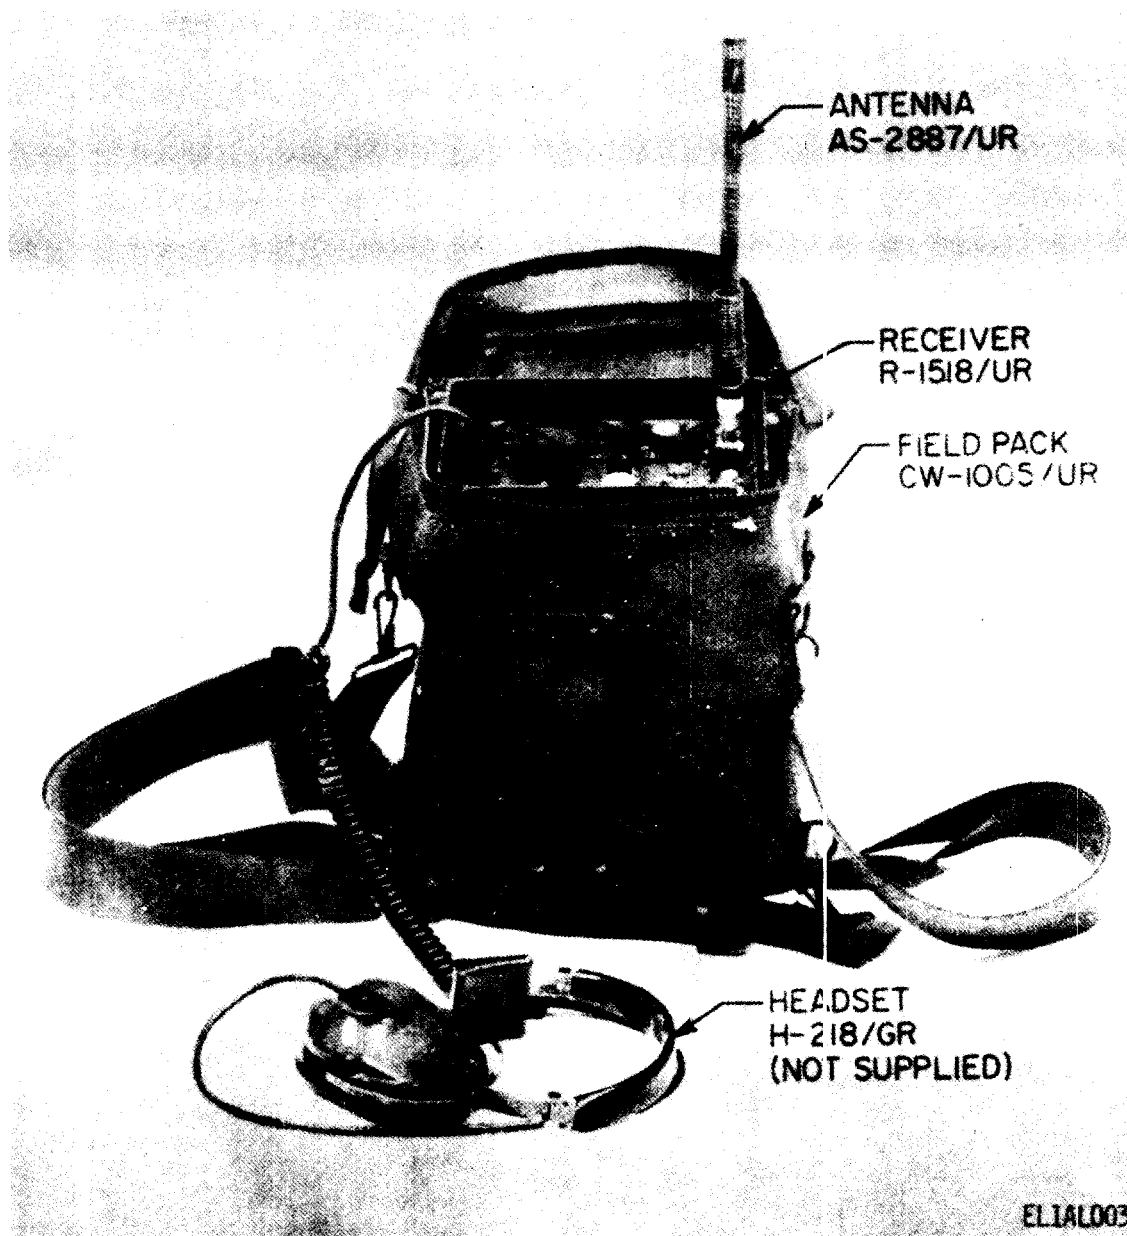

Figure 2-2. Typical manpack installation.
(1) Remove the battery cover (5) of the receiver by loosening the two attaching captive thumbscrews.
(2) Install the batteries with the polarity as shown on the inside of the battery cover.
(3) Reinstall the battery cover and secure with the two captive thumbscrews.
b. Manpack Installation (fig. 2-2).